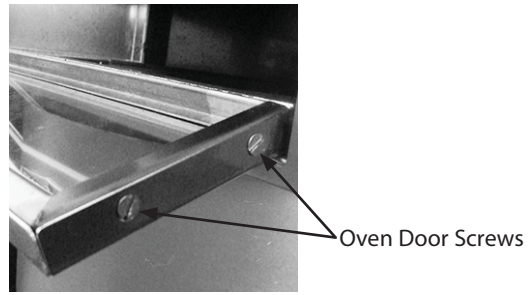

Figure 3: Oven Door Screw Location
1. While the oven is off and cool, open the oven door (Figure 3).
2. Using a flat-head screwdriver, remove the two screws on the right side of the oven door (Figure 3).